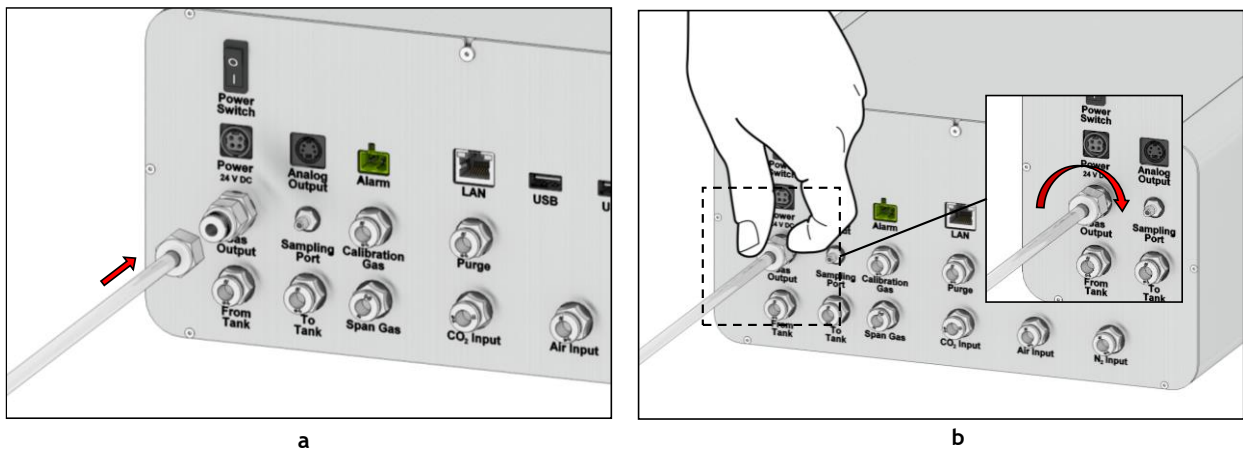

Figure 18. How to connect the TUBE BT gas output tube to the Tri-Gas-Mixer (a- b).
6. Connect the **TUBE BT** with the compression fitting connector to the Tri-Gas-Mixer gas port labeled “Gas Output”, as shown in Figure 18 a and b and the other side of the tube to the users’ line.